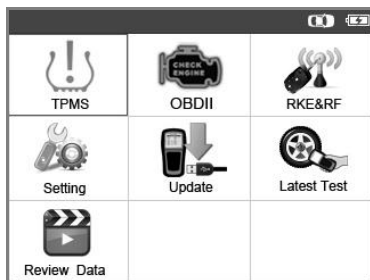

Figure 3.1
- 4) Power up the TPMS tool by pressing the **Power Button**, and wait for the Main Menu to appear. (Figure 3.1)
- 1) Use the **UP/DOWN** scroll button and **LEFT/RIGHT** scroll button to select **TPMS** from **Main Menu** (Figure 3.1), and press the **Y** button to confirm.